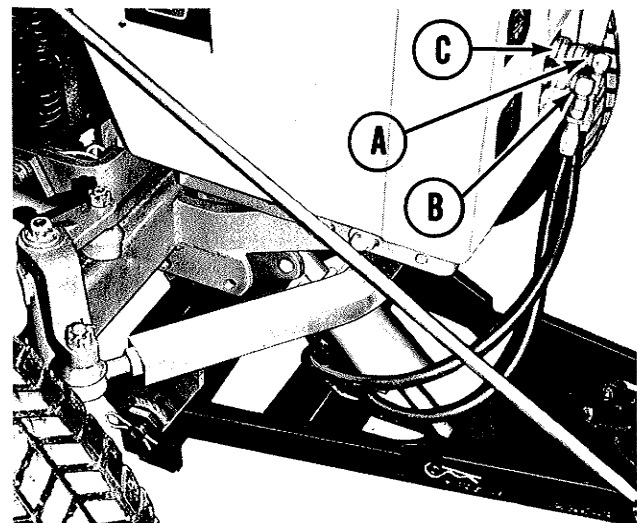

Figure 44. Hydraulic cylinder.
See figure 44. The hydraulic cylinder purchased as an accessory includes the hoses and quick-disconnect couplers. The Front Hydraulic Kit (optional - factory or field installed) is required to use the hydraulic cylinder for front mounted attachments. When connecting the hydraulic cylinder to the hydraulic lines, connect them as shown in figure 44 with the hose to the rod end of the cylinder connected at the coupling designated **ROD END (A)**. The hose to the piston end of the cylinder should be connected to the coupling labeled **PISTON END (B)**. When connecting or disconnecting the quick couplers, push back on the locking ring (C). When using the hydraulic cylinders only one cylinder should be used at a time. The cylinder not being used may be left in position, but the hydraulic couplers must be disconnected so only the one cylinder will move when the hydraulic lever is actuated. **NOTE: A HYDRAULIC CYLINDER DISCONNECTED UNDER PRESSURE (WHILE HOLDING AN ATTACH-**